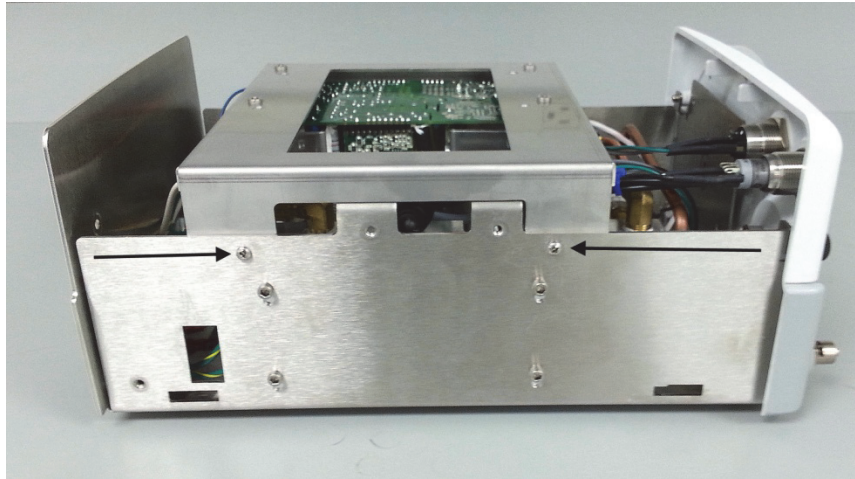

Figure 2
6. Remove the Power Supply Assembly screws (2 each side). See figure 2.
12. Set the Power Supply in place and secure with mounting screws (4). See figure 2.
4. Ground DC (Black)	COM (Note location in figure 2)
5. +24 VDC (Yellow)	+V (Note location in figure 2)